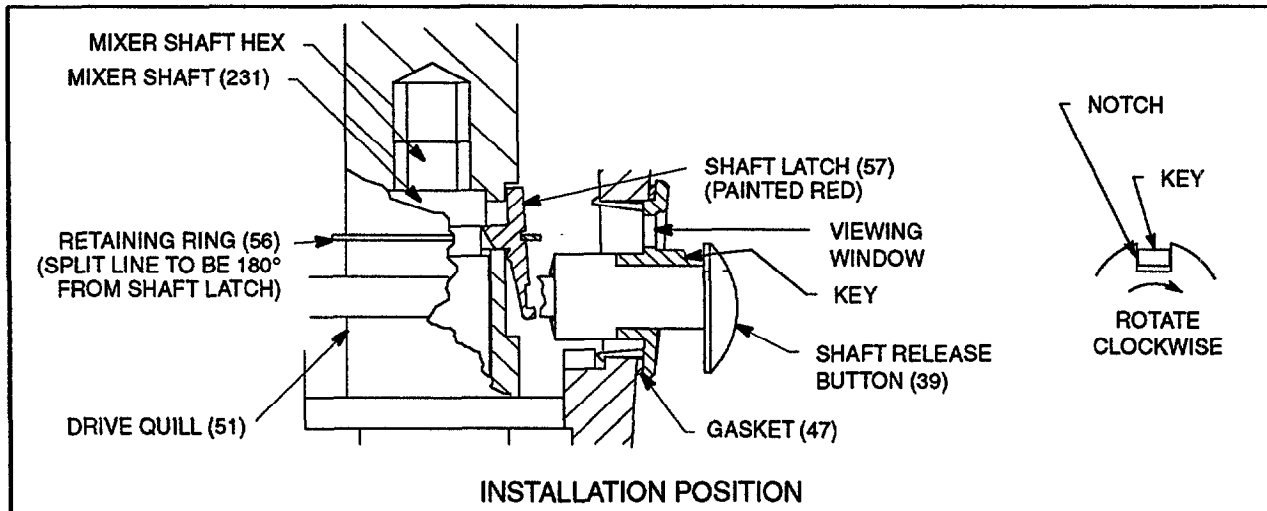
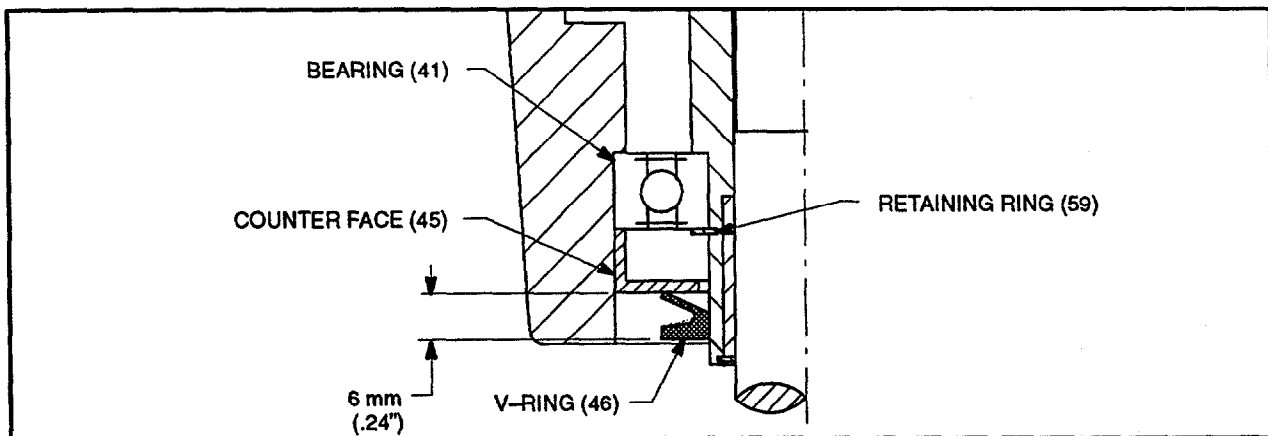

Figure 2 - Shaft Latch
Figure 3 – V-ring Installation
- 4.3 Rotate the yellow shaft release push-button clockwise. Align the push button notch with the raised key, and press to disengage shaft. See Figure 2.
- a. Place the shaft latch (57) in the groove provided, and slide the retaining ring (56) up from the bottom (shaft bushing end) of the drive quill into position shown in Figure 2. The split in the retaining ring should be 180° away from the shaft latch. When installing, extend the retaining ring only as far as necessary to slide it over the shaft and latch. **DO NOT** over extend the retaining ring, as this may decrease the tension on the shaft latch.
- a. Install the oil seal (38) in the bearing housing (36) with the seal cavity facing the flange of the bearing housing. It is necessary to position the oil seal below the bearing shoulder.
- b. Press the lower bearing (41) onto the drive quill (51) bearing journal. The bearing must seat against the drive quill shaft shoulder with no visible gap.
- c. Install the lower external retaining ring (59).
- d. Press the drive quill assembly into the bearing housing (36) from the bottom until the bearing seats on the housing shoulder.
- e. Turn the bearing housing over, support the assembly on the drive quill (51) and install the upper bearing (37) by pressing it into the bearing housing (36) and onto the drive quill (51).
- f. Install the upper external retaining ring (52).
- g. Support the bearing housing assembly in an upright position by the bolting flange, and press the drive quill downward until the bearing (41) shoulders on the retaining ring (59). This will relieve any locked in axial load on the bearing created during assembly.
- h. Turn the bearing housing over and press counter face (45) in place so that it seats against the bearing (41) as shown in Figure 3.
- i. Install the V-ring (46) onto the drive quill shaft so that it seats against the counter face (45) to the dimension shown in Figure 3.